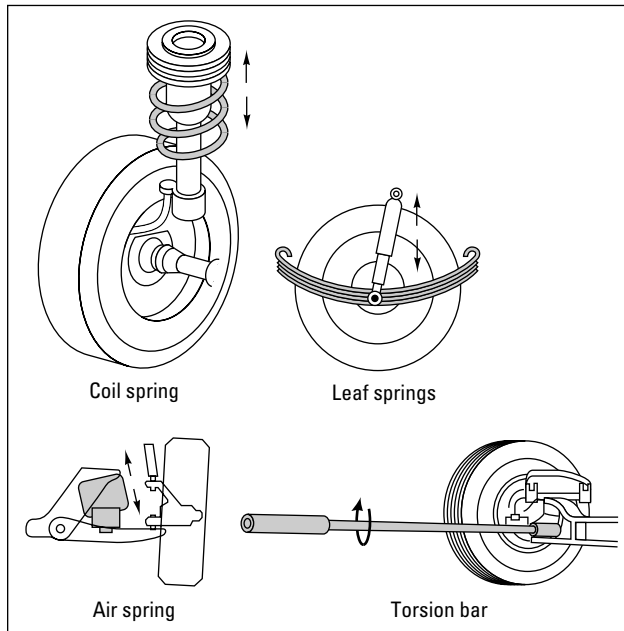

Figure 16-8: Coil springs, leaf springs, torsion bars, and air springs.
Springs are the core of the suspension system. Various types of springs are used to carry the weight of the vehicle and keep it off the tires, absorb the bumps, and keep your car at its proper trim height. These can be **leaf springs**, **coil springs**, **torsion bars**, or **air springs** (see Figure 16-8). Most cars use either coil or leaf springs; SUVs use coil springs, torsion bars, or leaf springs.
- ✔ **Air springs** are usually found on luxury vehicles. A rubber air spring can be filled with the right amount of compressed air to control the ride and maintain the proper height. With this type of system, a computer monitors the ride height and signals an onboard air compressor to pump more air into the air springs when weight is added to the vehicle. When the weight is removed, the computer turns on an exhaust solenoid to let air out of the air springs (refer to Figures 16-8 and 16-12).